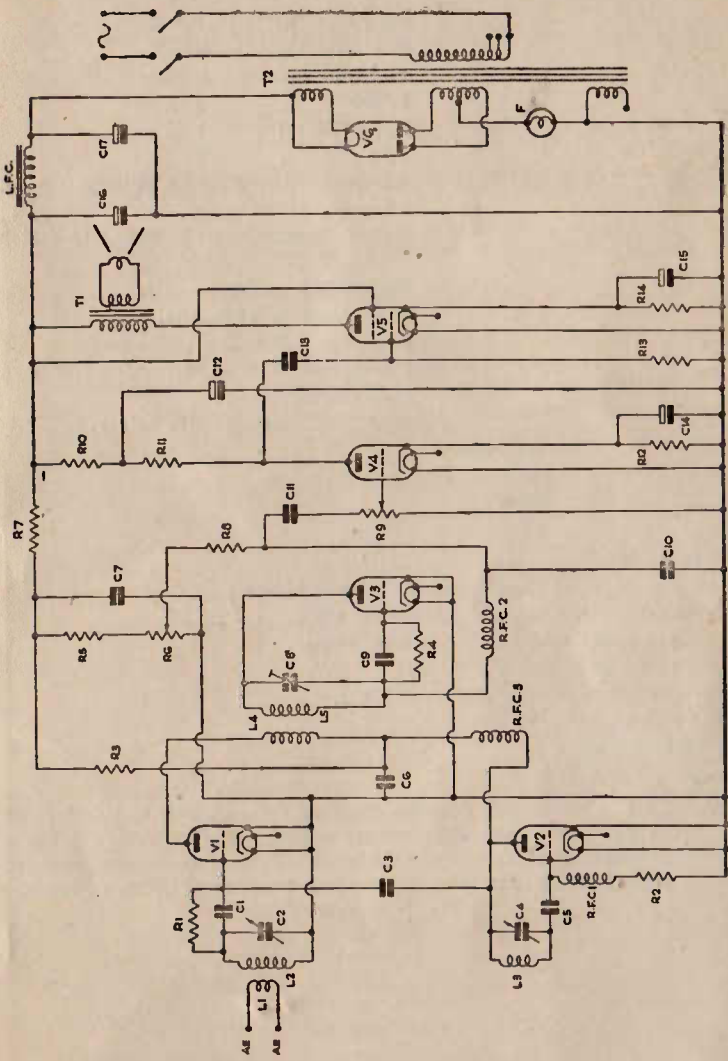

Fig. 31. V.H.F. Super Regenerative Superhet Receiver.
V.H.F. SUPER REGENERATIVE SUPERHET RECEIVER—Fig. 31.